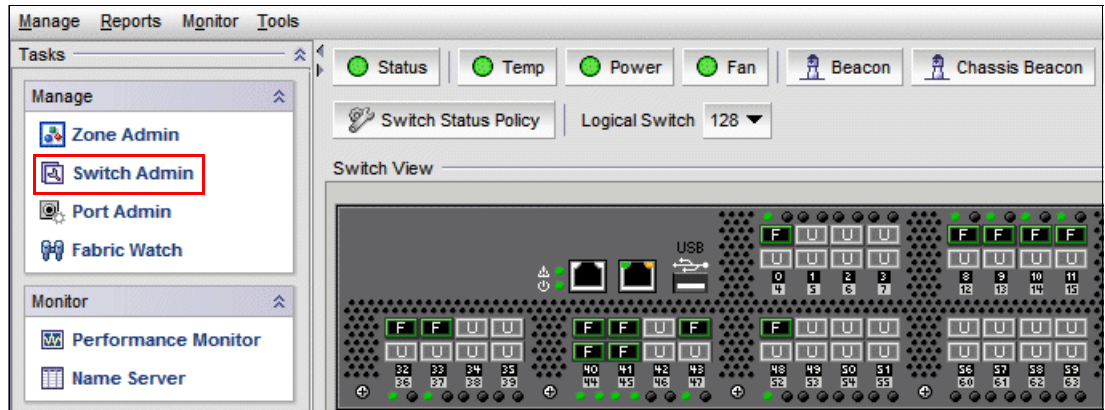

Figure 6-157 SAN switch main window
2. Log in to your external switch (Figure 6-157 shows the SAN switch main window). Click **Switch Admin**.